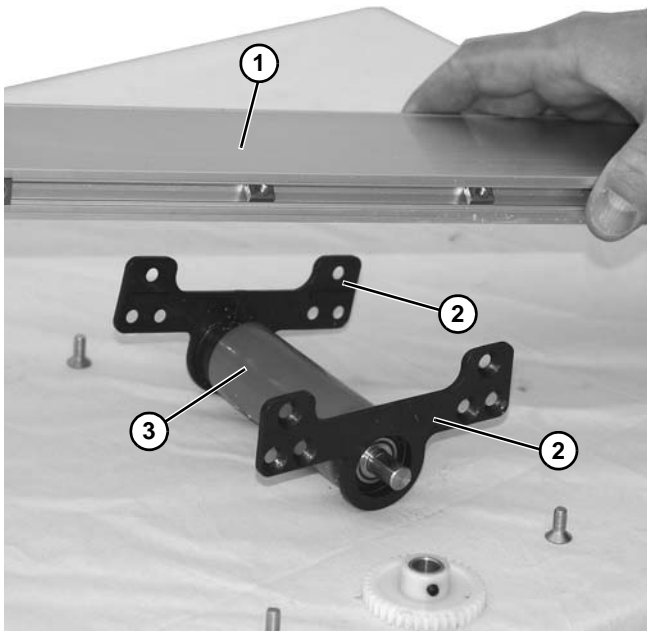

Figure 38
4. Raise conveyor (**Figure 38, item 1**) from pinch plate assembly.
5. Remove pinch plates (**Figure 38, item 2**) from roller (**Figure 38, item 3**).